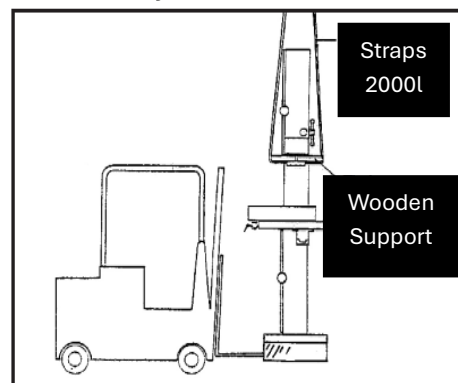

Figure 4: Machine Placement.
- With assistance, carefully lift and position the worktable onto the bandsaw. Use the four bolts, lock washers and flat washers provided in the hardware package see (Fig. 4).